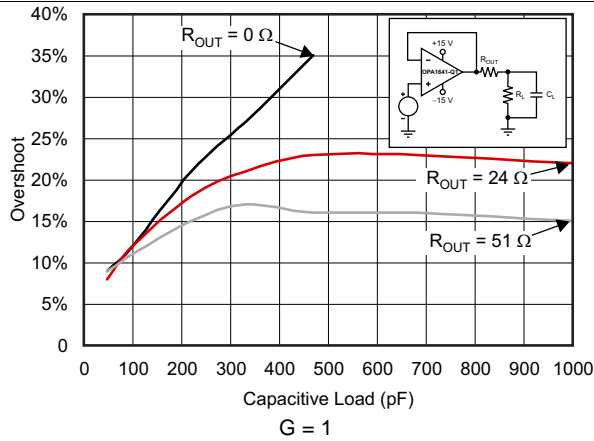
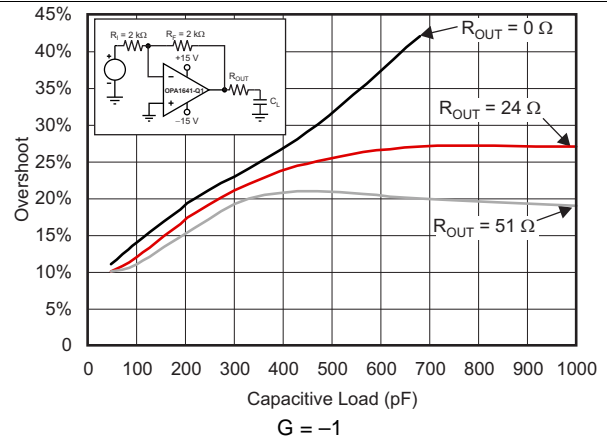

Figure 19. Small-Signal Overshoot vs Capacitive Load (100-mV Output Step)
Figure 20. Small-Signal Overshoot vs Capacitive Load (100-mV Output Step)
(1) Full power bandwidth = $SR / (2\pi \times V_P)$, where SR = slew rate.
(2) See Figure 19 and Figure 20.
Figure 19 and Figure 20 illustrate graphs of *Small-Signal Overshoot vs Capacitive Load* for several values of R_{OUT} . For details of analysis techniques and application circuits, see *Feedback Plots Define Op Amp AC Performance* available for download at www.ti.com